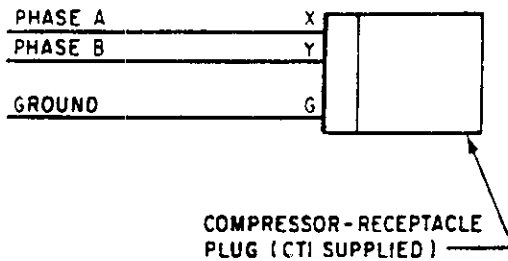

Figure 3.4 Wiring diagram for compressor-receptacle plug
- c. Insert the stripped end of the power cable into the cover opening by starting from clamp end (6) until the stripped conductor ends are exposed.
- d. Loosen and back off all terminal screws on receptacle plug face (2).
- e. Insert all conductors into their proper wire entrance holes on receptacle plug face. See Figure 3.4. Check that there are no bare conductors exposed. Tighten terminal screws to 9-12 in.-lbs. torque.